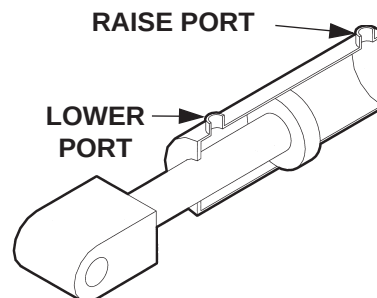

FIG. 49-3
3. Check the Hydraulic Cylinder. With the Platform on the ground, remove the hydraulic line from the Lower Port of the Cylinder (FIG. 49-3). Raise the Platform even with the bed. Allow pump motor to run two seconds more while you watch for hydraulic fluid at the Lower Port. A few drops of hydraulic fluid escaping the port is normal; however, if it streams out, Piston Seals are worn. Replace Seals.